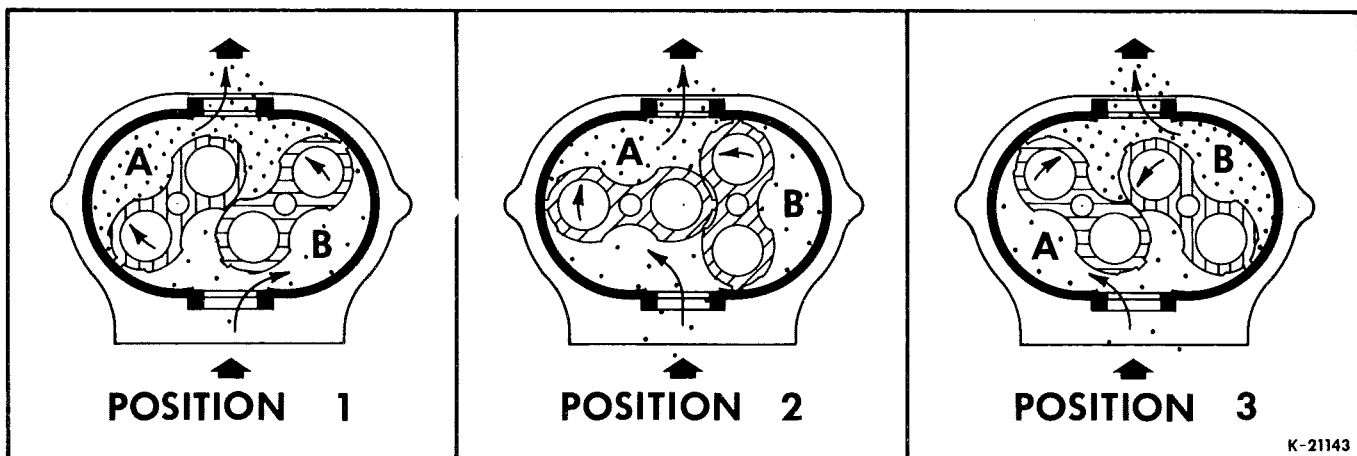

Figure 1 — Flow Through a Basic Type XA Gas Pump
Operation of the familiar basic rotary lobe gas pump is illustrated in FIGURE 1, where air flow is bottom to top from inlet to discharge with the left impeller rotating clockwise. In Position 1 it is delivering a known volume (A) to the discharge, while space (B) between the right impeller and cylinder wall is being filled. Counterclockwise rotation of this impeller then traps equal volume (B) in Position 2, and further rotation delivers it to the discharge in Position 3. At the same time, another similar volume is forming be-